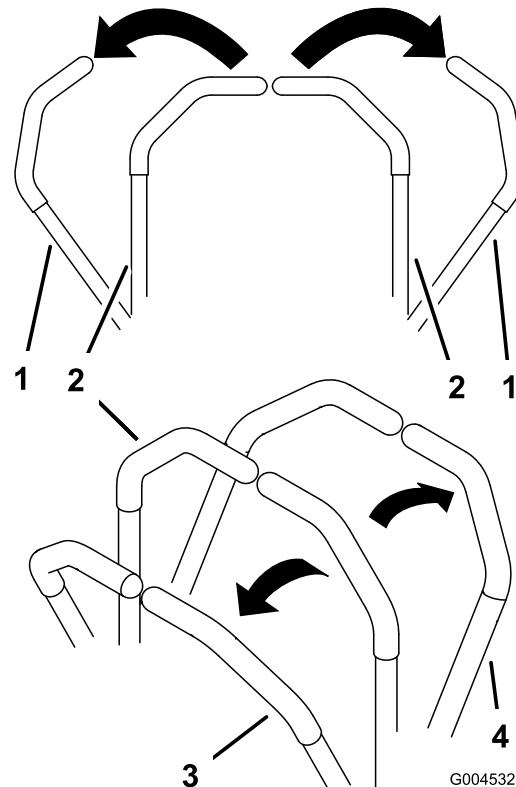

Figure 16
1. Move the motion control levers (Figure 16) out to the neutral lock position.
3. To go forward, slowly push the motion control levers forward (Figure 16).
To go straight, apply equal pressure to both motion control levers (Figure 16).
To turn, move the motion control lever toward neutral in the direction you want to turn (Figure 16).
2. To go backward, slowly pull the motion control levers rearward (Figure 16).
To turn, release pressure on the motion control lever toward the direction you want to turn (Figure 16).